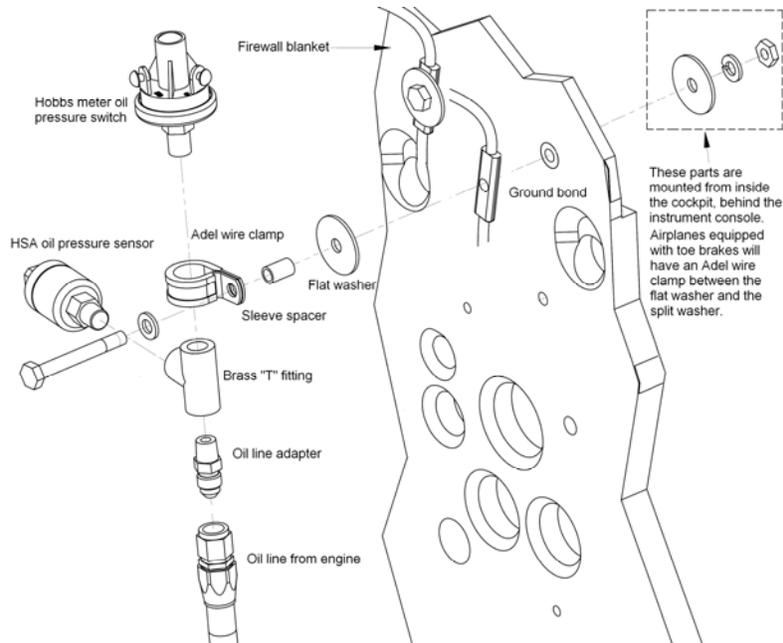

Figure 77-14 Exploded View of the Oil Pressure Mount
5. Refer to the exploded view shown in Figure 77-14. Have someone hold a wrench on the nut from inside the cockpit.
6. Refer to the exploded view shown in Figure 77-14. Have someone hold a wrench on the nut from inside the cockpit.
16. Using Figure 77-14 as a guide, assemble the mounting bracket and hardware.
18. Have some one hold the bolt from the engine compartment. Assemble the hardware from the cockpit side as shown in Figure 77-14.